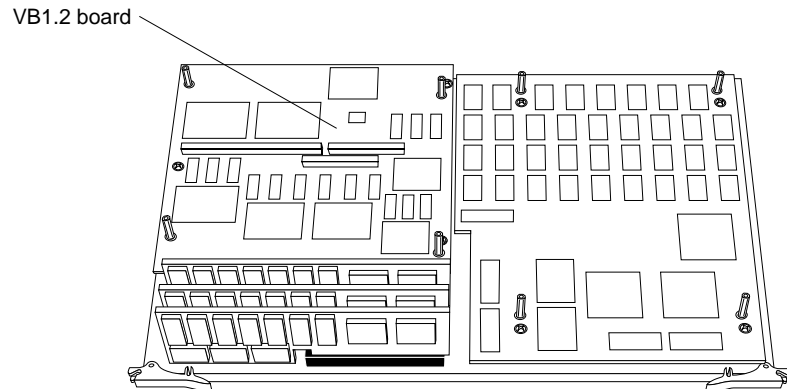

Figure 2-6 VB1.2 board installed
5. When you are satisfied that the connectors are properly seated, screw the VB1.2 board to the graphics board set using the three screws from the VB1.1. Figure 2-6 shows the VB1.2 board installed.